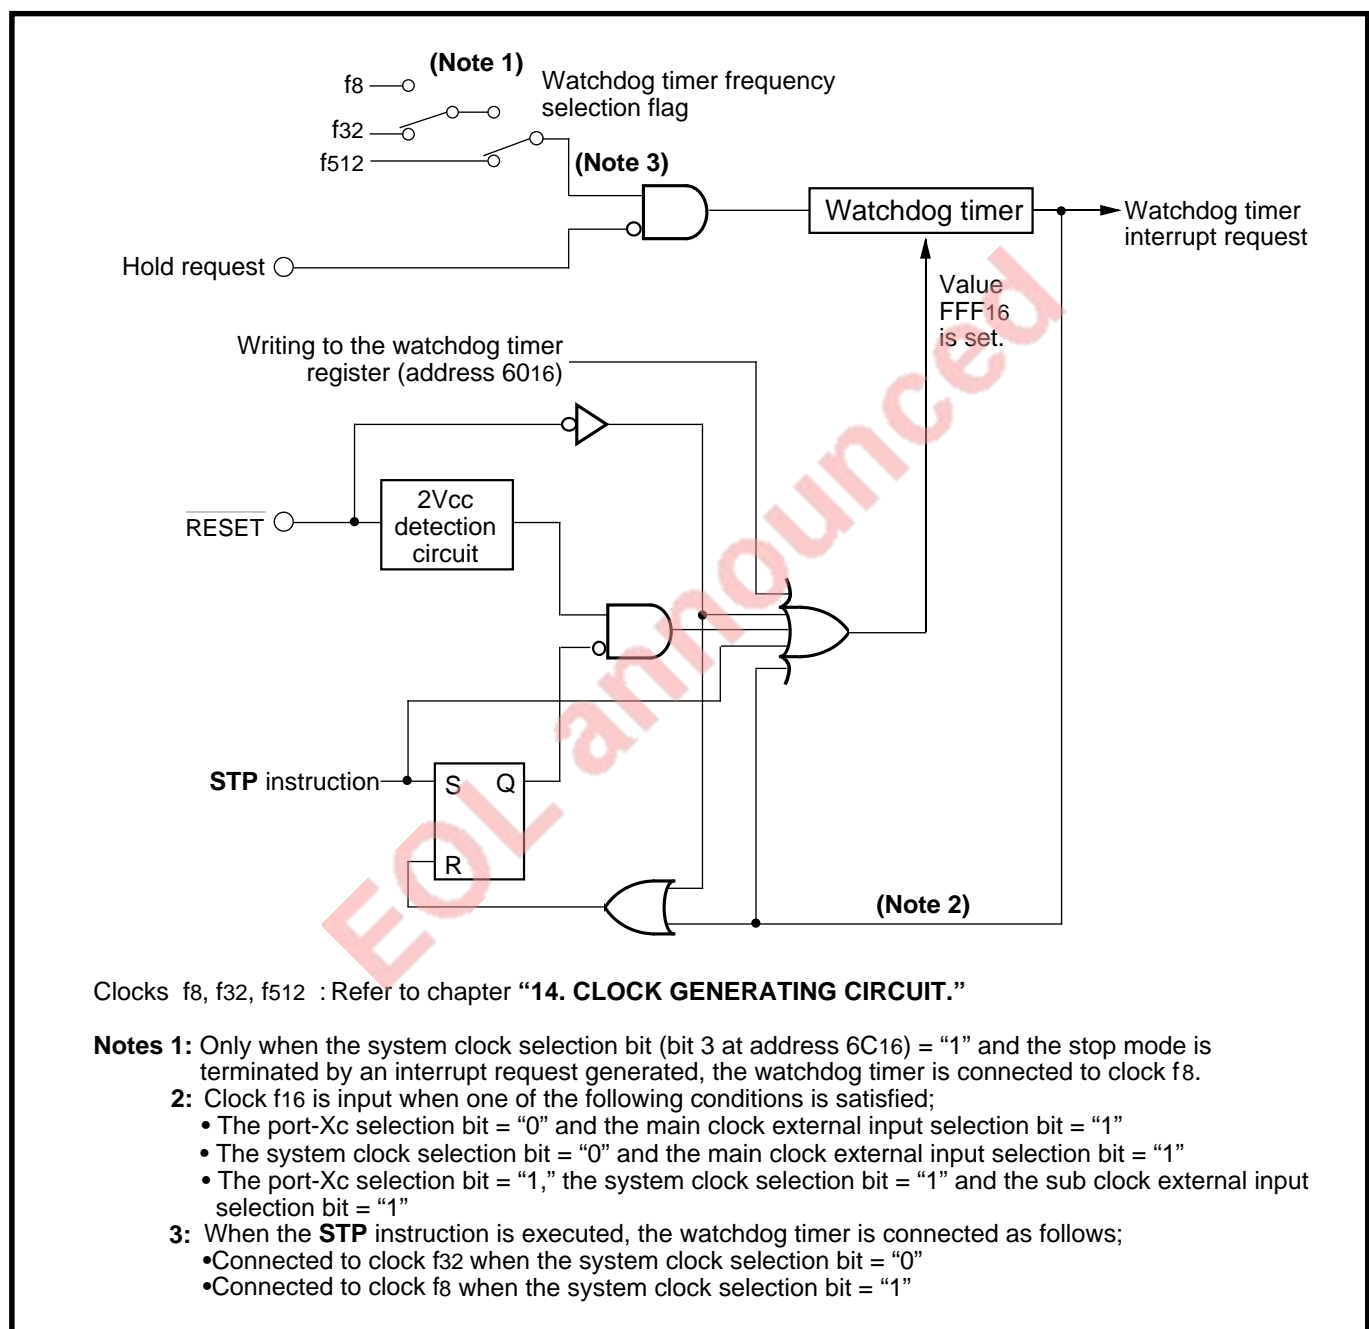

Fig. 10.1.1 Block diagram of watchdog timer
Figure 10.1.1 shows the block diagram of the watchdog timer.
2. In order to stop the watchdog timer in the hold state, the count source which is actually counted by the watchdog timer is the logical product of two signals. One is the inverted signal input from pin HOLD, and the other is a count source which is selected by the watchdog timer frequency selection flag (clock f32 or f512). (Refer to **Figure 10.1.1.**) Accordingly, there is a possibility that counting is performed when pin HOLD's input signal level changes during a duration which is shorter than 1 cycle of the selected count source (clock f32 or f512).